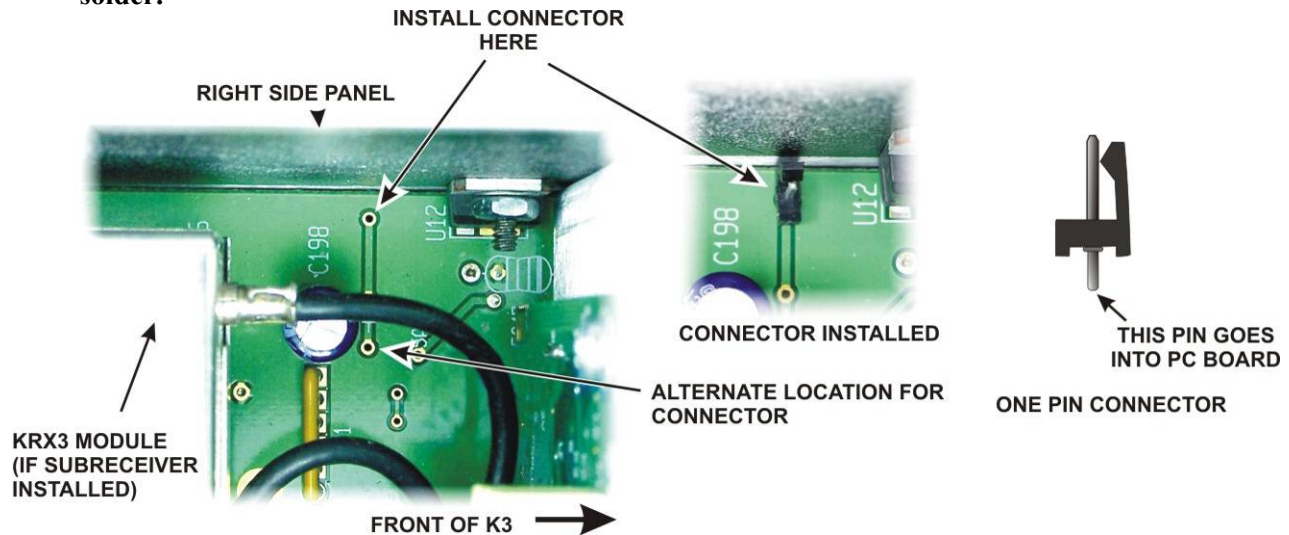

Figure 4. Installing the One-Pin Power Connector on the K3 RF Board.
2. Temperature-controlled soldering iron with a fine tip and small diameter rosin core solder may be needed if the power connector is not already installed in your K3 (see Figure 4 on page 11).
Check to see if the one-pin power connector is already installed on the K3's RF board (see Figure 4). If so, skip the following steps and go directly to *Installing the ANT3 Connector* on page 11.
Solder the male half of the one –pin connector to the via (copper plated hole through the board) near the front right area of the K3 main RF board just behind the front panel shield as shown in Figure 4. That via may be occupied on some K3’s. If so, use the alternate location shown. Mounting the connector may be done by standing the K3 on its left side and inserting the connector in the hole in the pc board. Carefully solder the pin to the copper via on the bottom. If necessary, you can straighten the connector after soldering by pressing down on the shoulder with your finger while reheating the solder on the bottom.
- Skip this step if you are not installing the K144XV Reference Oscillator Phase Lock option at this time. Disconnect the TMP cable from J83 on the Main KSYN3 board (mounted on the front panel shield closest to the side panel you have removed; see Figure 4, *TMP Cable Connections*, in the K144XV Reference Oscillator Phase Lock Option Installation manual). Leave the other end of the cable connected to J2 on the KREF3 board. Take the TMP cable from your K144XV Ref Lock kit and plug it into J83 on the KSYN3 board. You will plug both of these cables into K144XV after the module has been installed. Be sure to position the cables so you can reach them after installing the K144XV module in the following steps.
Skip this step if you are not installing the K144XV Reference Oscillator Phase Lock option at this time. Refer to the K144XV Reference Oscillator Phase Lock Option Installation manual and install the Phase Lock board as shown in Figure 3, *Installing the Phase Lock Board*, on page 7, and then connect the TMP cables as described on page 8 and in Figure 4, *TMP Cable Connections*.